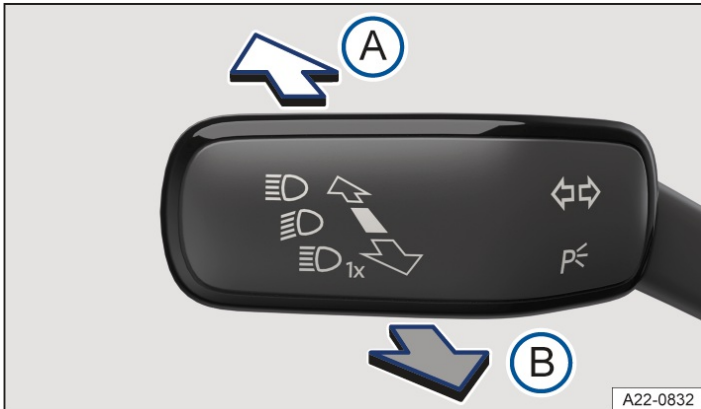

Fig. 1 On the left-hand side of the steering column: turn signal and main beam lever.
3. Tap the lever forward from the basic position → Fig. 1 **A**.
Or: if Dynamic Light Assist is switched on and active, pull the lever back → Fig. 1 **B**.
Or: if Dynamic Light Assist is switched on and not active, tap the lever forward → Fig. 1 **A**. Manual main beam is now switched on. To switch off the manual main beam again, pull back the lever.